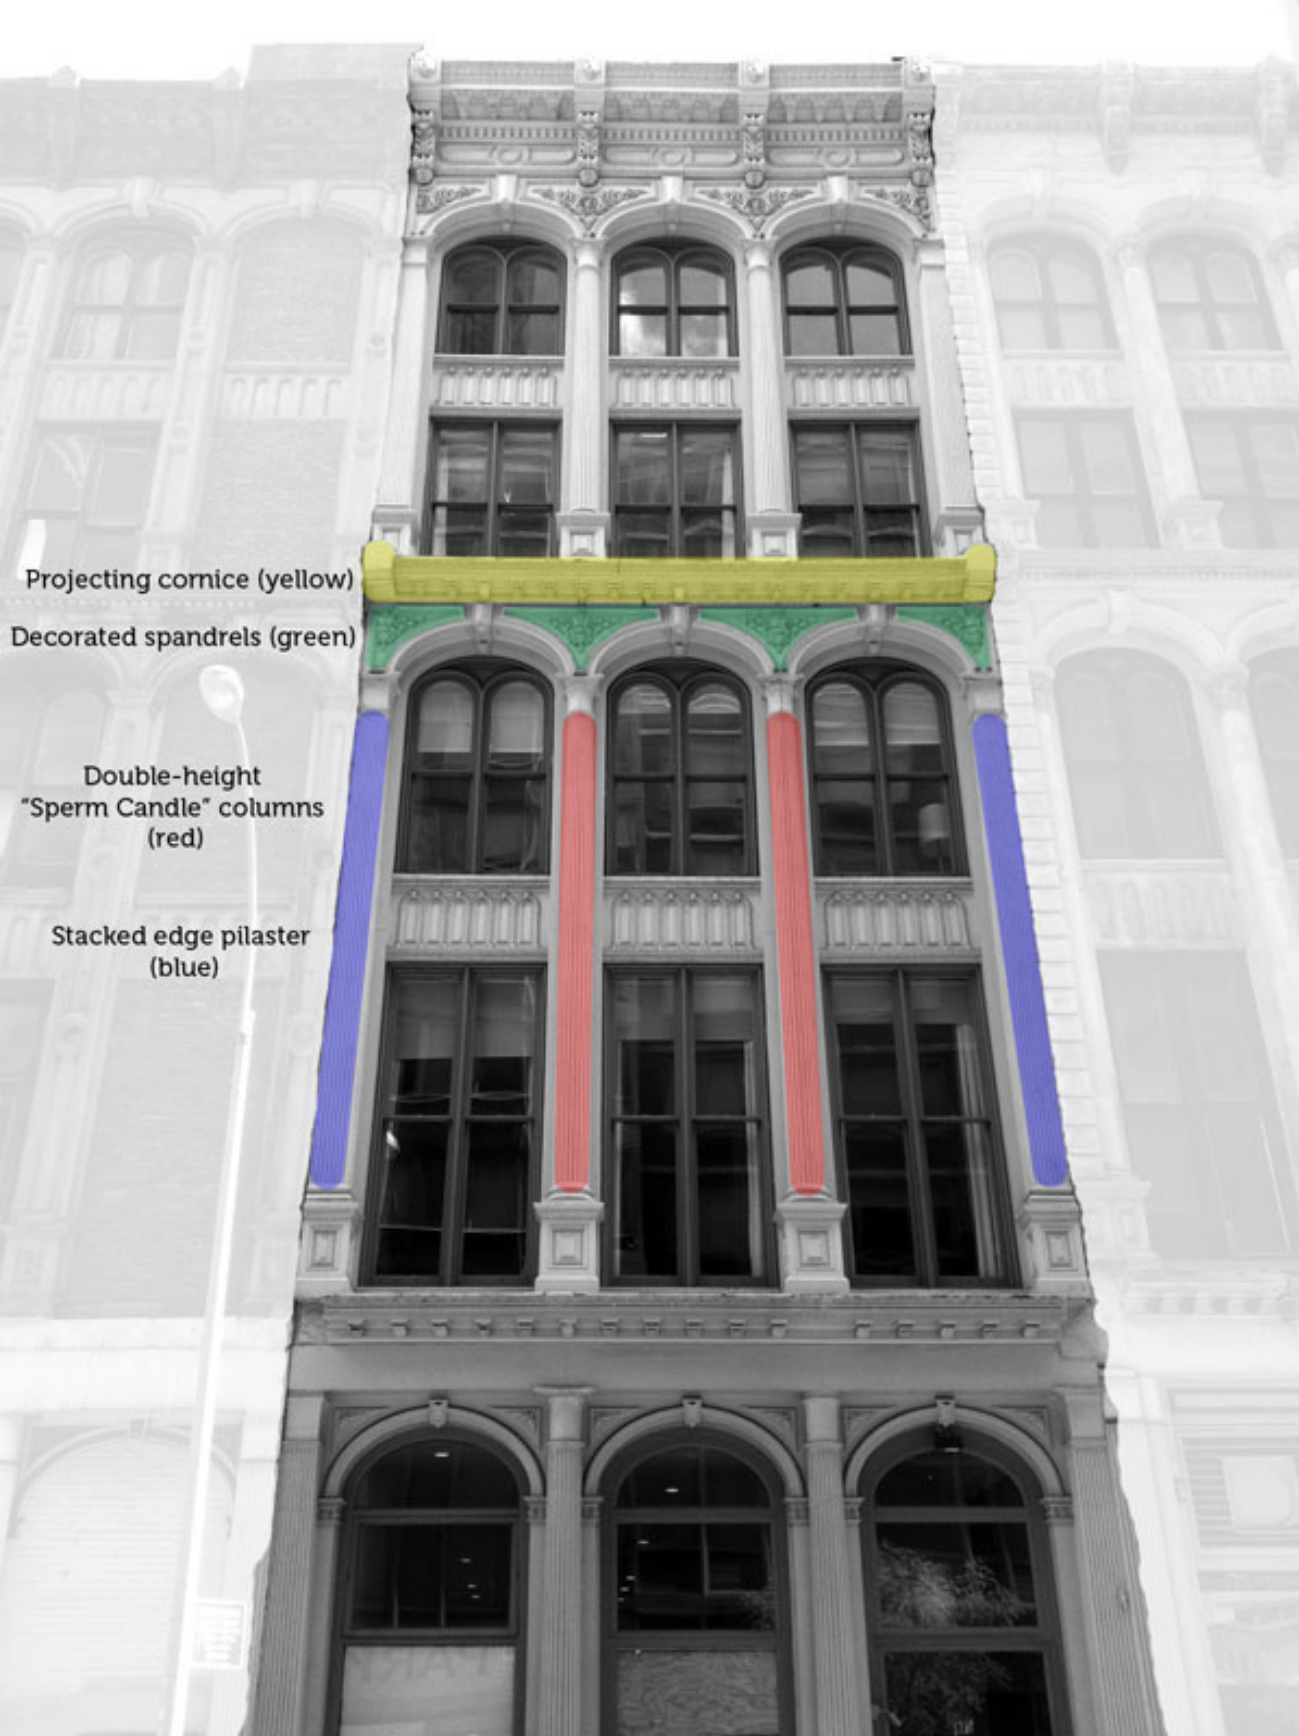

Fig. 5. Sperm Candle Style Facade: 85 Leonard Street, with highlights added.
- The defining feature is the **stacked, two-story, engaged columns** (the “sperm candles”) that rise over a single-story ground floor. See red highlights in Fig. 5.
- The two-story columns are divided by a **strong intermediate cornice** (see yellow highlights in Fig. 5). Overall, however, the horizontal emphasis of this single cornice is insufficient to balance the strong verticality of the oversized columns. As a result, **sperm candle designs necessarily exhibit the greatest verticality of all styles of cast iron facades.**
- Stacked **double-height pilasters** run along the vertical edges of the building, framing the facade. See blue highlights in Fig. 5.
- **Spandrels between the windows** are typically highly decorated. See green highlights in Fig. 5.